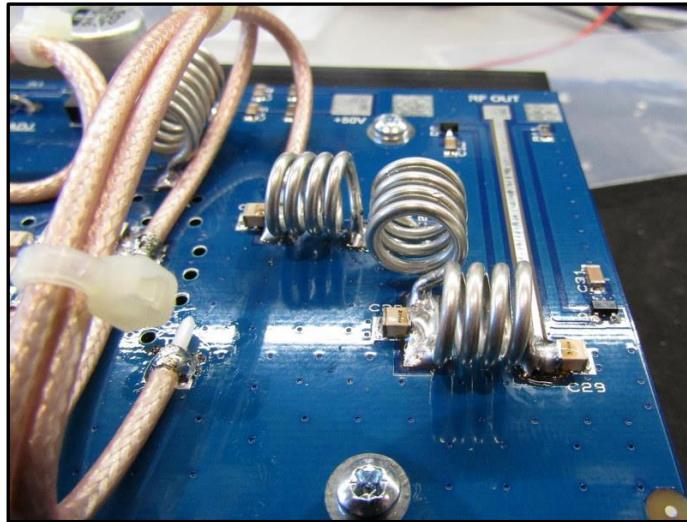

Figure 15: L10 Position.
17. Cut two 122mm pieces of 16SWG tinned copper wire and make two 4-turn close-wound coils around a 6.5mm drill bit. The length of both coils should be 9mm from centre-to-centre of the wire. Bend and trim the excess wire to form 2mm leads and solder the first coil in position at the pads near C26 & C27. This is L8, the first coil of the low pass filter. See figure 15.